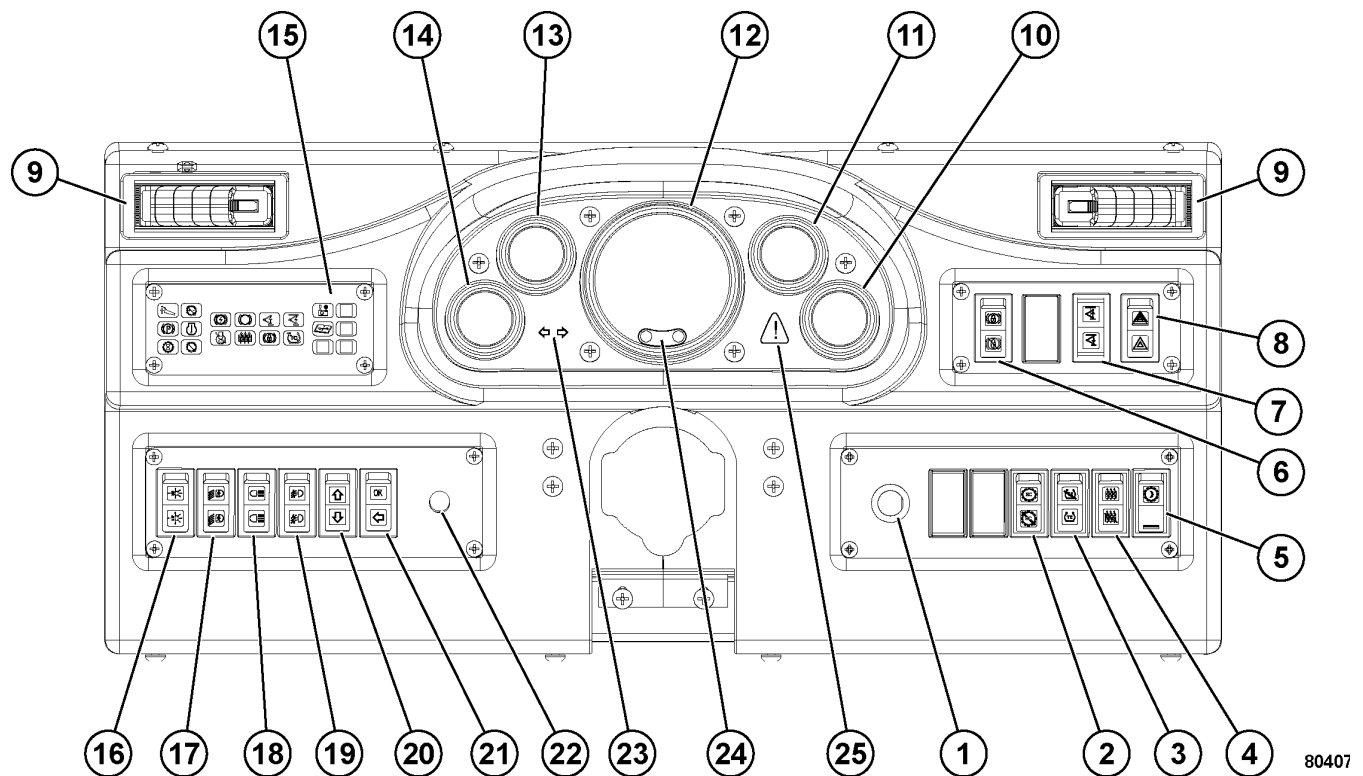

FIGURE 32-7. INSTRUMENT PANEL GAUGES, INDICATORS AND CONTROLS
Key switch (1, Figure 32-7) is a three-position switch (OFF, RUN, START).
2. After the engine has started, place rest switch (4, Figure 32-7) in the OFF position. For more information, refer to "Rest Switch" on the next page.
Speed control switch (2, Figure 32-7) is a rocker switch. When in the ON position, the speed control lever on the steering column can be used as a "cruise control" function.
Traction control switch (3, Figure 32-7) is a rocker switch. When in the OFF position, the traction control feature is turned off. This can be used in dry operating conditions when the chance of slipping or sliding is minimal so that the drive system will always put maximum power to the ground.
Retarding grid drier switch (4, Figure 32-7) is a rocker switch. When in the ON position, this feature is used to dry the retarding grids when starting the truck after it has been washed or parked in rainy conditions. This will
Rest switch (5, Figure 32-7) is a rocker switch with a locking device. A safety tab on the switch must be pushed to unlock the switch before the top of the switch can be depressed to activate the rest mode.
Wheel brake lock switch (6, Figure 32-7) should be used with engine running for dumping and loading operations only. The brake lock switch actuates the hydraulic brake system which locks the **rear wheel service brakes only**. When pulling into shovel or dump area, stop the truck using the foot-operated service brake pedal. When truck is completely stopped and in loading position, move the directional control lever to NETURAL, then apply the brake lock by pressing the top of the rocker switch. To release the brake, press the bottom of the rocker switch.
Pantograph switch (7, Figure 32-7) controls the position of the pantograph. The switch will only operate when the directional control lever is in the "T" (trolley) position. Pressing the top side of the rocker switch will raise the pantograph. Pressing the lower side of the switch will lower the pantograph. Ensure truck is in position under the wires before raising the pantograph.
Hazard warning light switch (8, Figure 32-7) flashes all the turn signal lights. Pressing the bottom side of the rocker switch activates these lights. Pressing the top side of the rocker switch turns these lights off.
Heater/air conditioner vents (9, Figure 32-7) are may be directed by the operator to provide the most comfortable cabin air flow.
Fuel level gauge (10, Figure 32-7) indicates how much diesel fuel is in the fuel tank. When there is only 10% of total fuel tank capacity remaining, the amber low fuel level indicator on the gauge will illuminate.
Hydraulic oil temperature gauge (11, Figure 32-7) indicates the oil temperature in the hydraulic tank. There are two colored bands: green and red.
Speedometer/digital display (12, Figure 32-7) has several functions:
Coolant temperature gauge (13, Figure 32-7) indicates the temperature of the coolant in the engine cooling system. The temperature range after engine warm-up and a truck operating under normal conditions should be 85° to 97°C (185° to 207°F).
Drive system temperature gauge (14, Figure 32-7) indicates the status of the highest measured temperature range in the drive system.
Status indicator light panel (15, Figure 32-7) contains an array of indicator lights to provide the operator with important status messages concerning selected truck functions. Refer to Status Indicator Lights later in this section for a detailed description of these indicators.
The instrument panel lights, clearance lights, and the headlights are controlled by this three-position rocker type switch (16, Figure 32-7). OFF is selected by pressing the bottom of the switch. Press the top of the switch until it reaches the first detent to select the panel lights, clearance lights and tail lights only. Press the top of the switch again until it reaches the second detent to select headlights, panel lights, clearance lights and tail lights.
Ladder light switch (17, Figure 32-7) turns the ladder lights on or off after or before using ladder. Pressing the top of the rocker switch turns the lights on. Pressing the bottom of the switch turns the lights off. Another switch is mounted at the front left of truck near the base of ladder.
Backup light switch (18, Figure 32-7) allows the backup lights to be turned on for added visibility and safety when the directional control lever is not in the REVERSE position. When the switch is in the ON position, the backup light indicator on the instrument panel (B4, Figure 32-8) will be illuminated.
Pressing the top of fog light switch (19, Figure 32-7) turns the lights on. Pressing the bottom of the switch turns the lights off.
Mode switches (20) and (21, Figure 32-7) are two-way momentary rocker switches. The arrows are used to toggle through the different options and messages on the digital display. The OK position is used to acknowledge and clear warnings and faults and set certain Payload Meter III settings.
Panel illumination light dimmer switch (22, Figure 32-7) is a rheostat which allows the operator to vary the brightness of the instruments and panel illumination lights.
Indicators (23, Figure 32-7) illuminate to indicate that the right or left turn signals are operating when the turn signal lever on the steering column is moved upward or downward. Moving the lever to its center position will turn the indicator off.
Cold ambient operating temperatures may affect the contrast of the digital display. If necessary, use buttons (24, Figure 32-7) to increase or decrease the contrast of the digital display to make it easier to read.
Red warning light (25, Figure 32-7) will come on to indicate that a truck function requires **immediate action** by the operator. Safely stop the truck and notify maintenance personnel. A warning message will appear on the digital display.